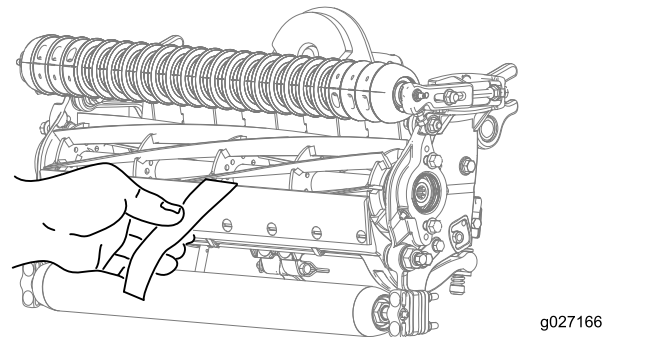

Figure 11
12. Test the cutting performance by inserting a long strip of Toro cutting performance paper between the reel and the bedknife, perpendicular to the bedknife (Figure 11).